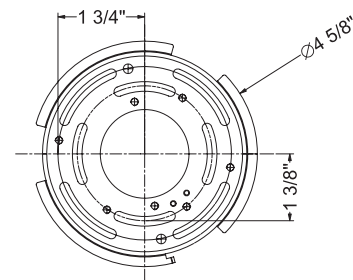

Fig. 2 Wiring
CONNECTING THE WIRES (Fig. 2)
8. Connect the driver output wire with fixture wire as shown in Fig. 2 red to the red, and black to the black. make sure Wire connectors (B) are secured
9. Connect the driver input wire with junction box as shown in Fig.2, make sure that all wire connectors (A) are secured. If your outlet box has a green or bare copper ground wire, connect the fixture's ground wire to it. Otherwise, connect the fixture's ground wire directly to the back plate using the GND screw provided. After wires are connected, tuck them carefully inside the junction box.